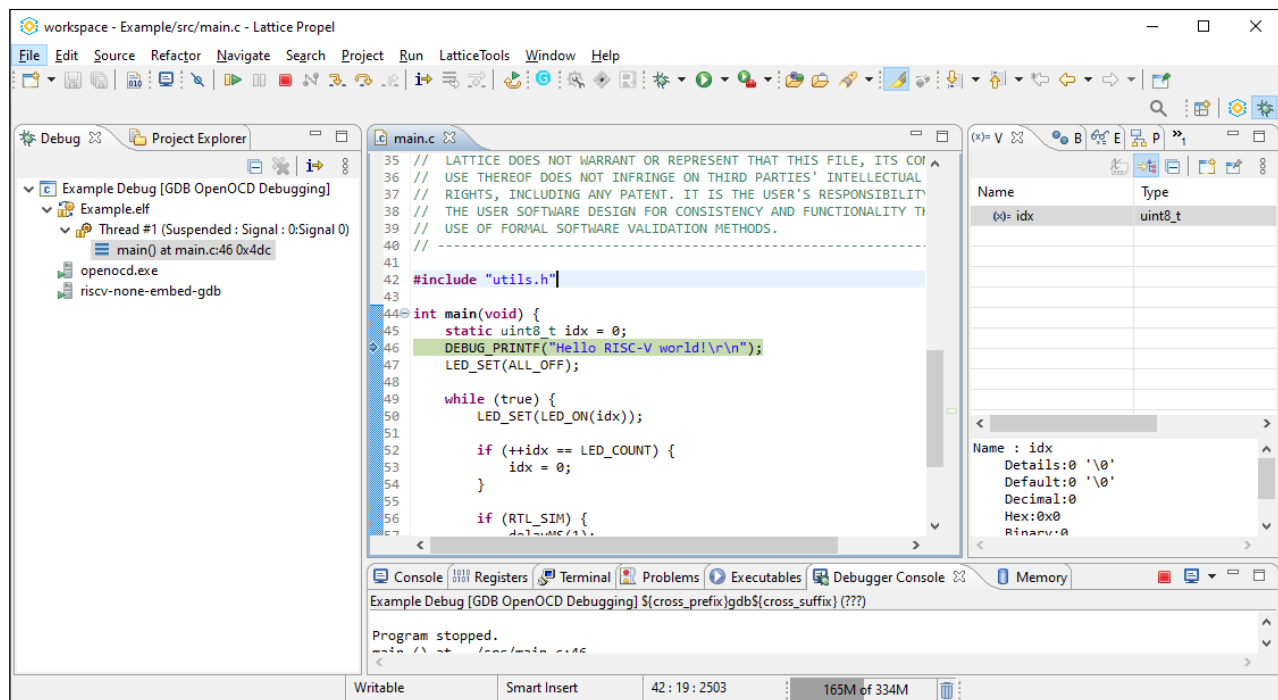

Figure 3.44. Debug Perspective 1
- The Lattice Propel Window displays, as shown in Figure 3.44. The execution stops right at the beginning of the main() function.